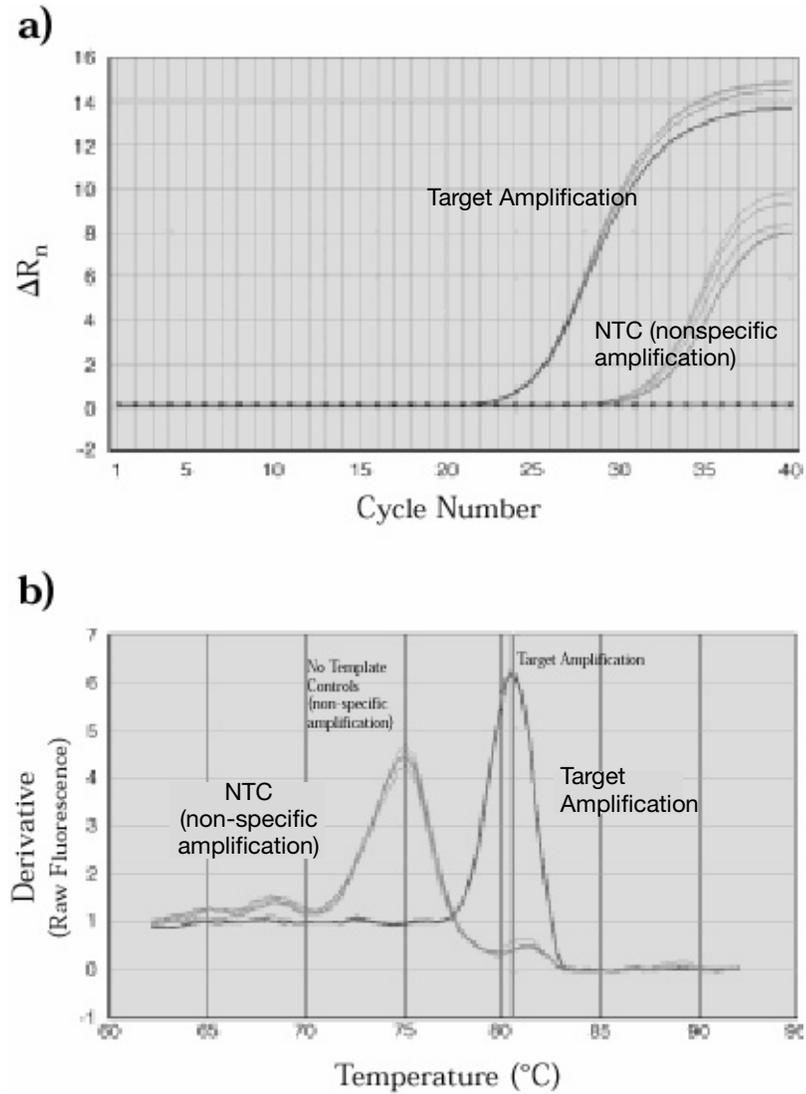

Figure A-1 Amplification data using SYBR Green I dye chemistry
1.	Review the linear view of the amplification plot in your NTC wells.  Note: In Figure A-1 on page A-8, part a, the strong amplification of the NTC wells indicates that significant nonspecific amplification is occurring.
2.	Generate a dissociation curve on your Applied Biosystems Real-Time PCR System.  Note: In the example dissociation curve data shown in Figure A-1 on page A-8, part b, the melting temperature of the product generated in the absence of template is lower than the melting temperature of the specific product generated with template. This variation is typical of primer-dimer formation, and it indicates that lower primer concentration may provide optimal results.